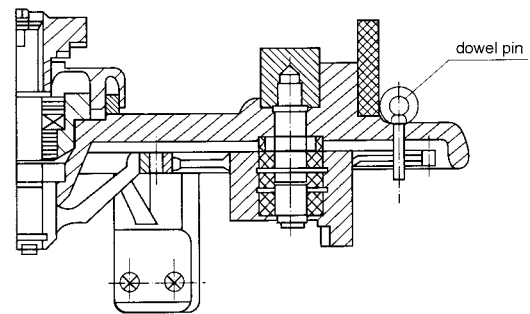

Fig.14 Diverter switch set positioning pin
At last, remove the red-painted dowel pin from the intermediate gear wheel connector at the cylinder bottom of the diverter switch. (See Fig.14)
- f. From the intermediate gear connector at the oil compartment bottom remove the red-painted dowel pin (see Fig.14).